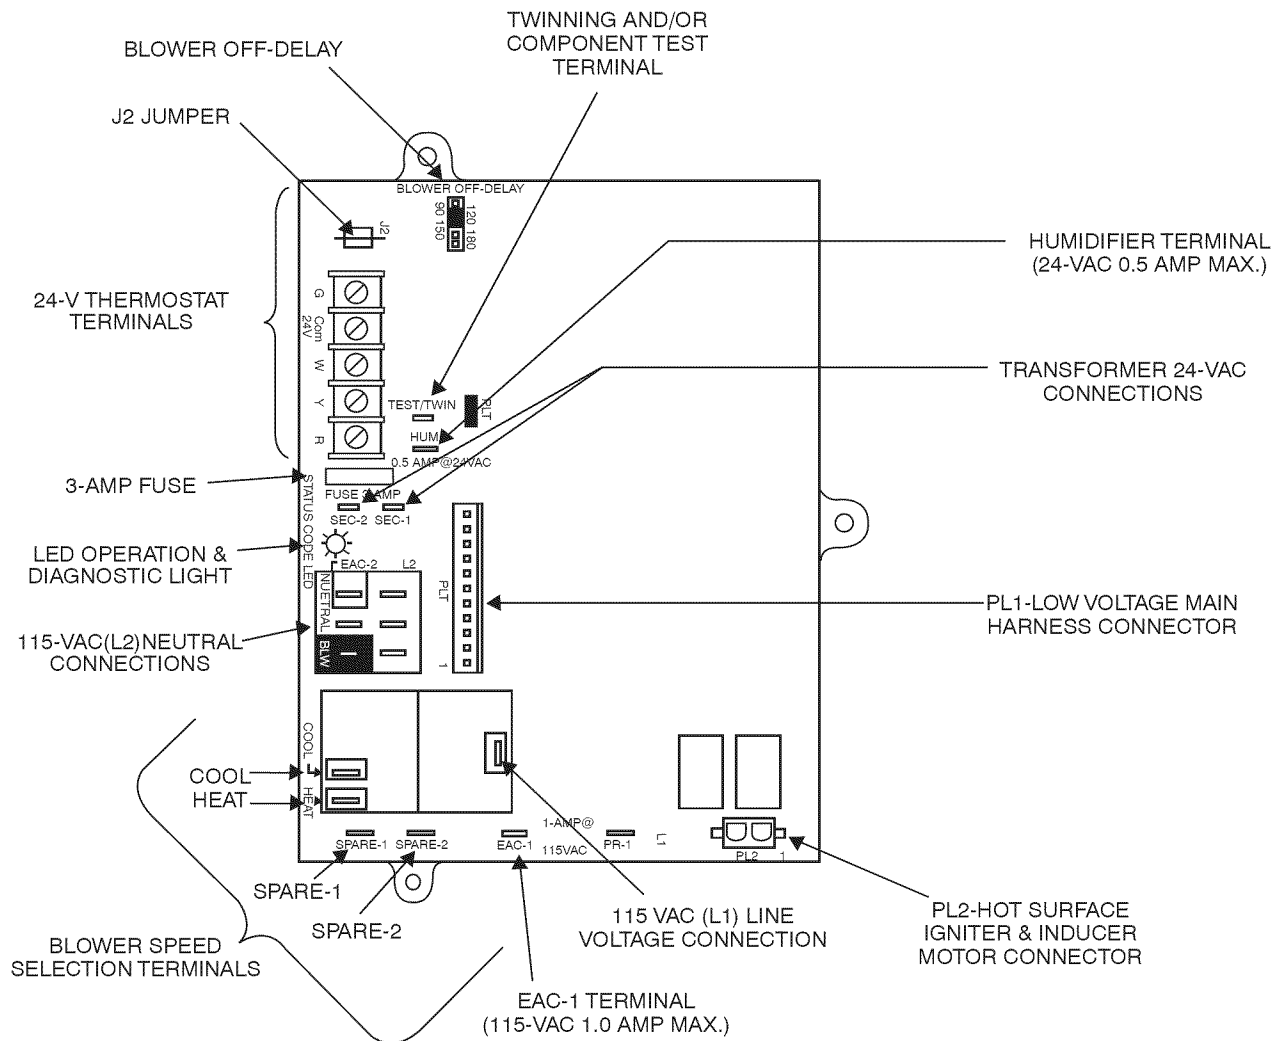
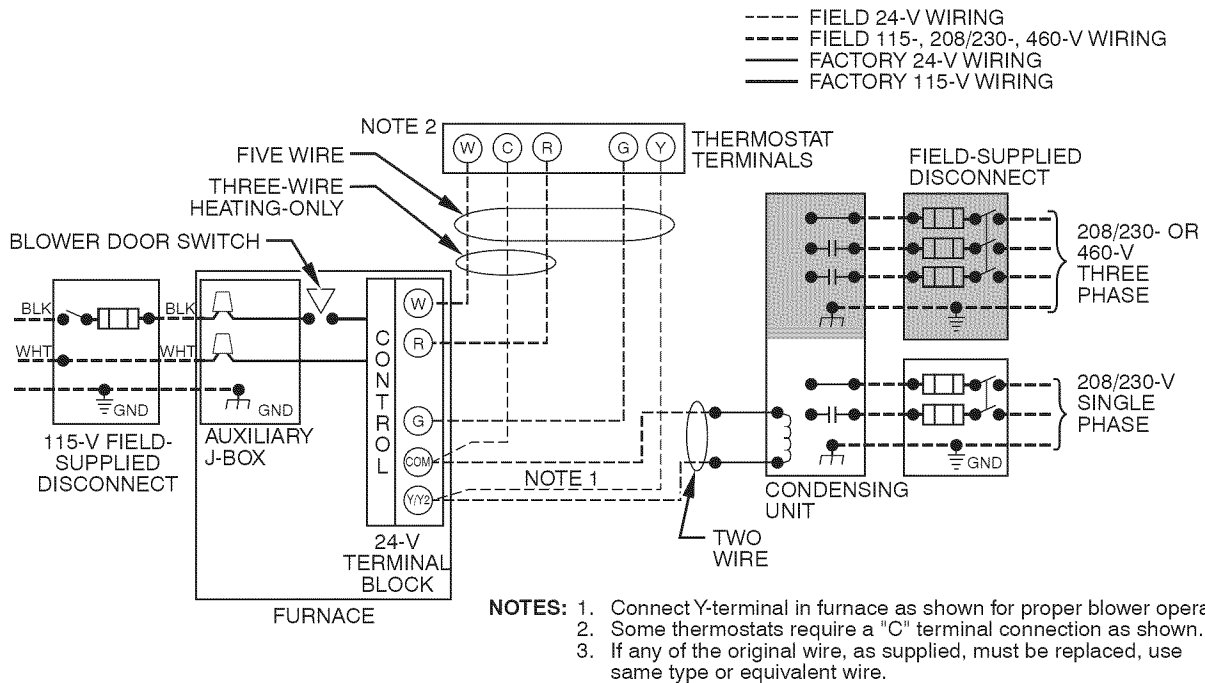

Fig. 25 – Furnace Control
Fig. 26 – Heating and Cooling Application Wiring Diagram with Single Stage Thermostat
See Fig. 26 for field wiring diagram showing typical field 115-v wiring. Check all factory and field electrical connections for tightness.
5. Connect line voltage leads as shown in Fig. 26.
- Complete electrical box wiring and installation. Connect line voltage leads as shown in Fig. 26. Use best practices (NEC) for wire bushings, strain relief, etc.
- Connect line voltage leads as shown in Fig. 26.
Make field 24-v connections at the 24-v terminal strip. (See Fig. 25.) Connect terminal Y as shown in Fig. 26 for proper cooling operation. Use only AWG No. 18, color-coded, copper thermostat wire.